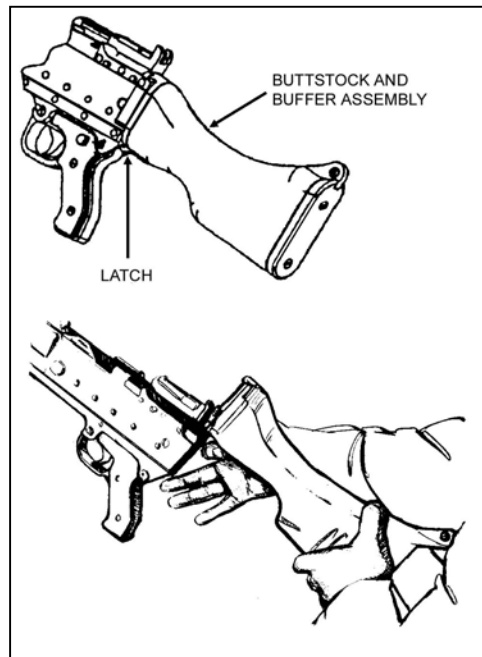

Figure 3-11. Removal of buttstock.
a. **Remove the Buttstock and Buffer Assembly.** Depress the back plate latch located on the underside of the butt stock where it joins the receiver. Slide the butt stock upward (straight up) and remove it from the receiver (Figure 3-11, page 3-12).